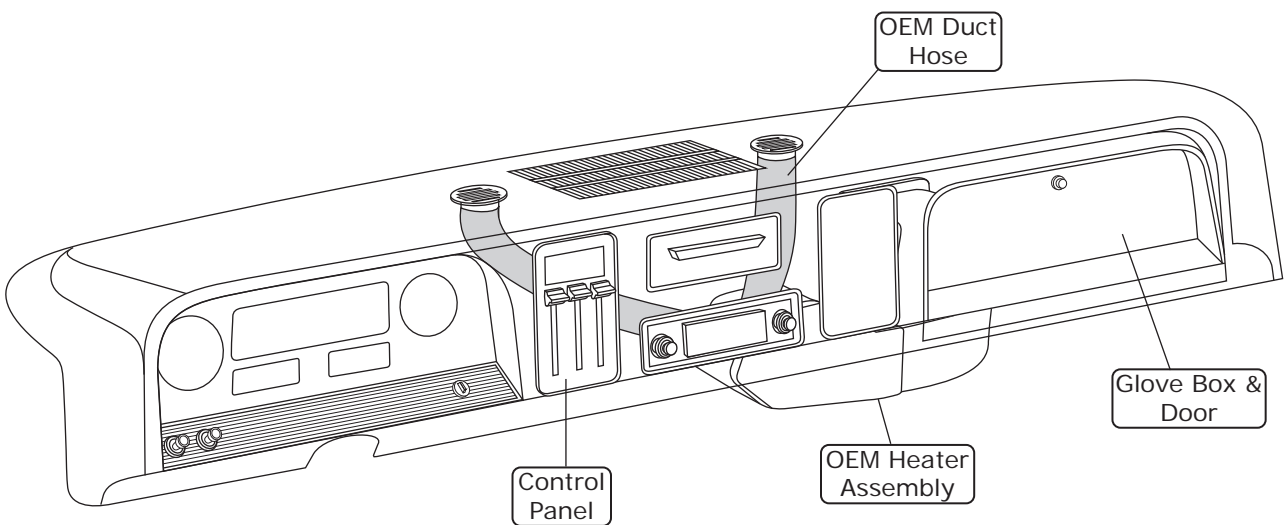

Figure 1
4. Remove the OEM heater blower assembly and OEM heater hoses (discard) (See Figure 1, below).
5. Remove the OEM duct hoses from defrost ducts (See Figure 1, below).